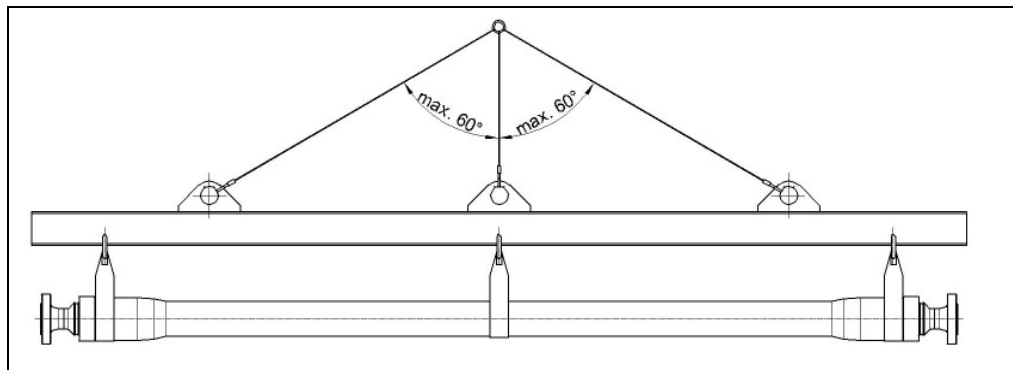
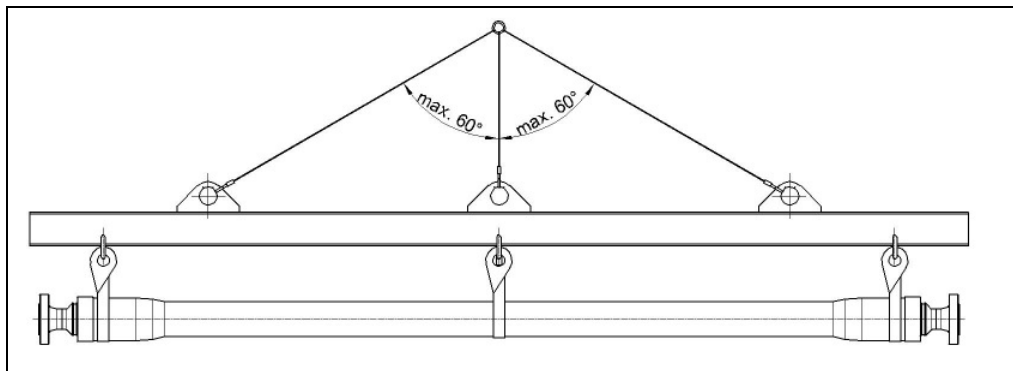
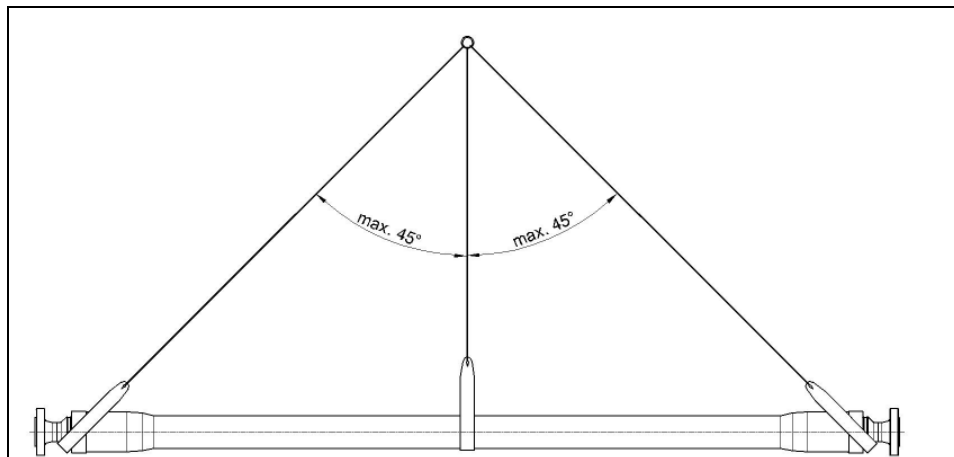
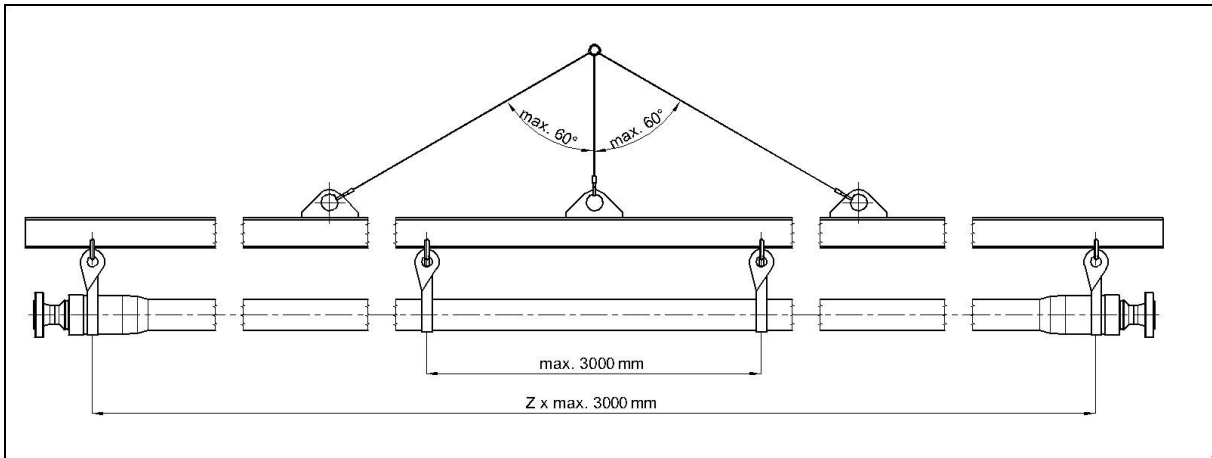

Figure 9
Figure 10
Figure 11
Figure 12
- If the hose is shorter than 35 feet, lift the hose out using the lifting beam as shown in Fig 9 and Fig 10, alternatively when lifting beam is not available, use
wire ropes as shown in Fig. 11. If the hose is longer than 35 feet, a lifting beam must be used with a maximum of 3 m between lifting points as shown in Fig. 12. Use lifting straps (Refer to Fig 9 and Fig 10), minimum 6 inches wide. Do not lift the hose with wire-ropes!
- If the hose is shorter than 35 feet, lift the hose out using the lifting beam as shown in Fig 9 and Fig 10, alternatively when lifting beam is not available, use wire ropes as shown in Fig. 11. If the hose is longer than 35 feet, a lifting beam must be used with a maximum of 3 m between lifting points as shown in Fig. 12. Use lifting straps (Refer to Fig. 9 and Fig. 10), minimum 6 inches wide. Do not lift the hose with wire-ropes!